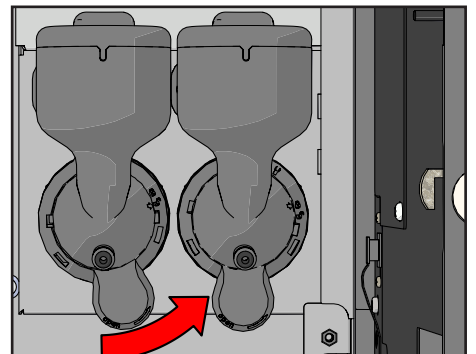

Figure 51. Turn mixer ring
6. Turn the mixer ring counter-clockwise to the unlock position (see Figure 51).